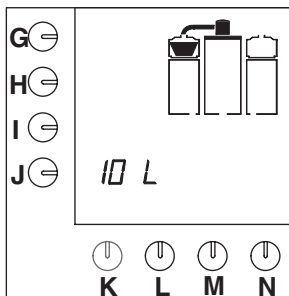

Fig. 9 Dripping-on time
- As soon as the coffee container has been filled, the filter pan flashes on the display for the dripping-on time (fig.9).